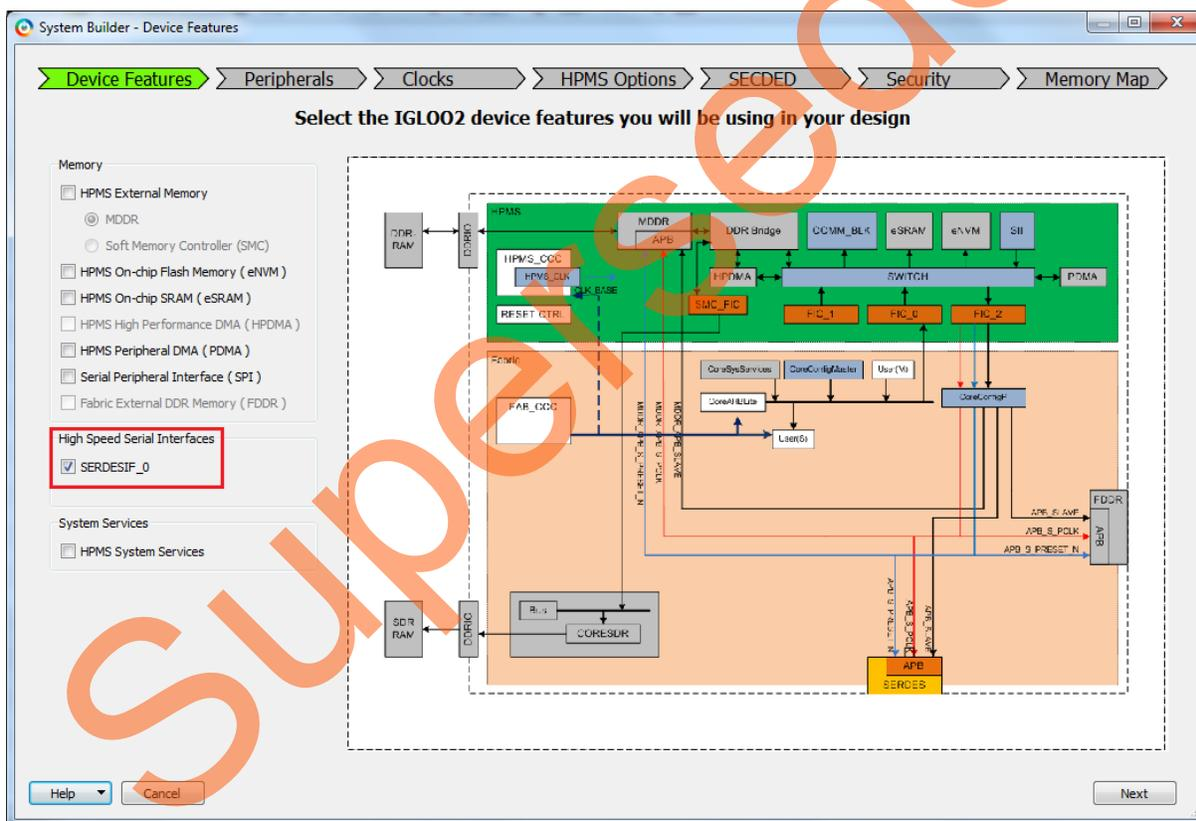

Figure 8 • System Builder – Device Features Tab
- In the **System Builder – Device Features** tab, select the **SERDESIF_0** check box under **High Speed Serial Interfaces** as shown in **Figure 8**.